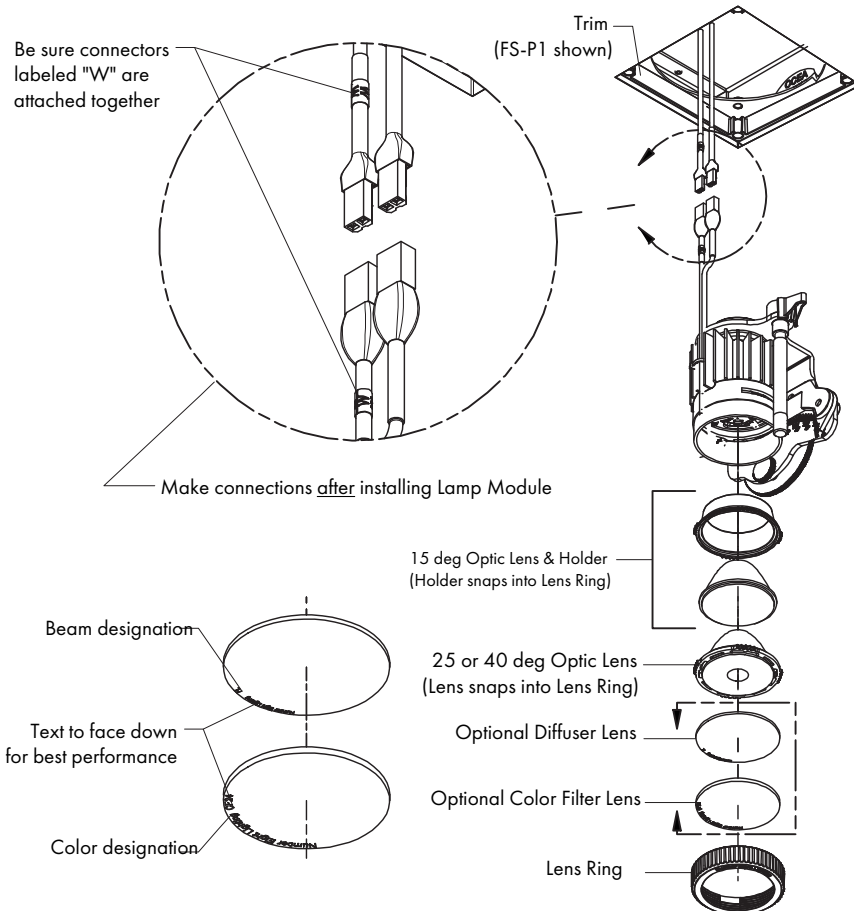

FIG 10.2 Installing Lamp Module J2S-TW
Step 2 Insert Lamp Module into housing as shown then adjust to 45° position to expose fastener. Secure to Housing Center Stud - **FIG 10.2 & 10.3.**
Step 3 Plug Wire Connectors from Lamp Module into Power Supply Module connectors. Push wires up inside housing to avoid interference during adjustment - **FIG 10.2.**
Optional Accessories: Unscrew Lamp Ring to add/ remove accessories - **FIG 10.2.**